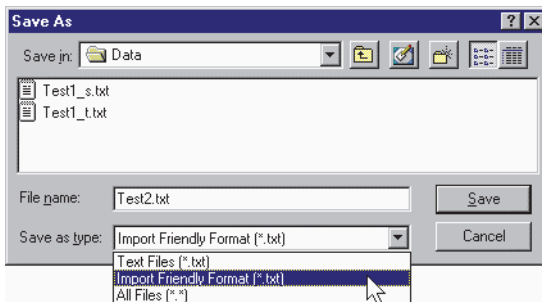

Figure 4-4. Save As Dialog Box
- 1 On **File** menu, click **Save As**. 'Save As' dialog box opens (Figure 4-4). By default, files are saved in **C:\Radon\Data** subdirectory. You can save files here, or select a different folder.